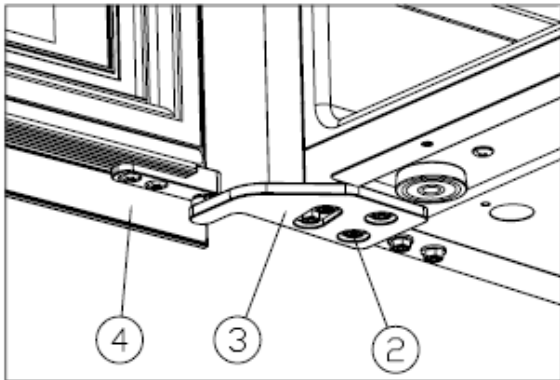

Figure 5
- ✧ Install the right upper hinge ③, and screw tight the M5*16 screws②. [Figure 5]